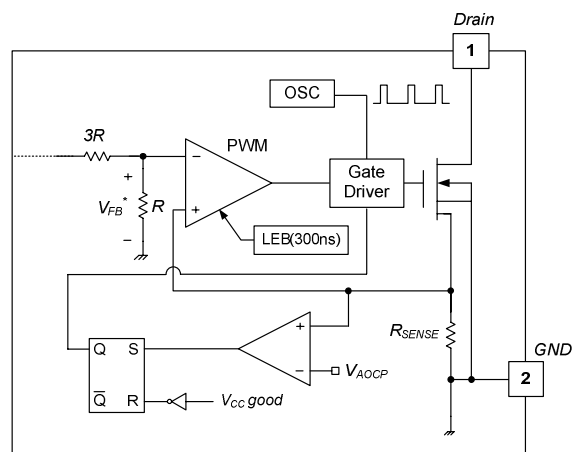

Figure 21. Abnormal Over-Current Protection
**4.2 Abnormal Over-Current Protection (AOCP):** When the secondary rectifier diodes or the transformer pins are shorted, a steep current with extremely high di/dt can flow through the SenseFET during the minimum turn-on time. Even though the FSGM0765R has overload protection, it is not enough to protect the FSGM0765R in that abnormal case; since severe current stress is imposed on the SenseFET until OLP is triggered. The FSGM0765R internal AOCP circuit is shown in Figure 21. When the gate turn-on signal is applied to the power SenseFET, the AOCP block is enabled and monitors the current through the sensing resistor. The voltage across the resistor is compared with a preset AOCP level. If the sensing resistor voltage is greater than the AOCP level, the set signal is applied to the S-R latch, resulting in the shutdown of the SMPS.